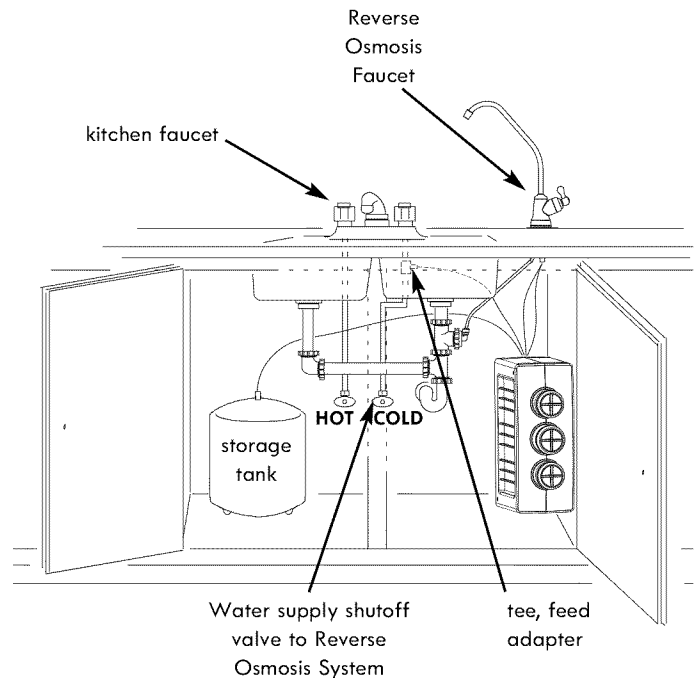

Figure 23
1. Open the water supply valve to the Reverse Osmosis System. See Figure 23.
2. Open the main water supply valve and several house faucets. This will purge air from the house plumbing and system. Close faucets when water runs smooth. See Figure 23.